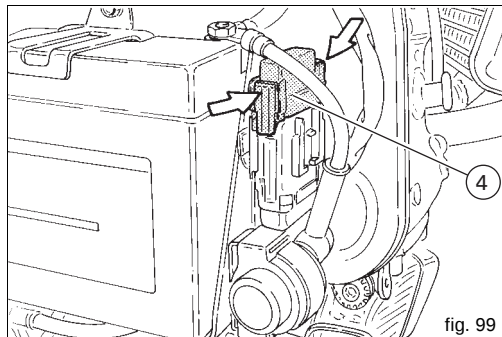

fig. 99
Remove the caps (3, fig. 100) to expose the fuses. The fuse located on the side of the battery (fig. 100) protects the electronic regulator. Remove the fuse cap (4) to expose it. A blown fuse is identified by the interrupted inner filament (5, fig. 99).